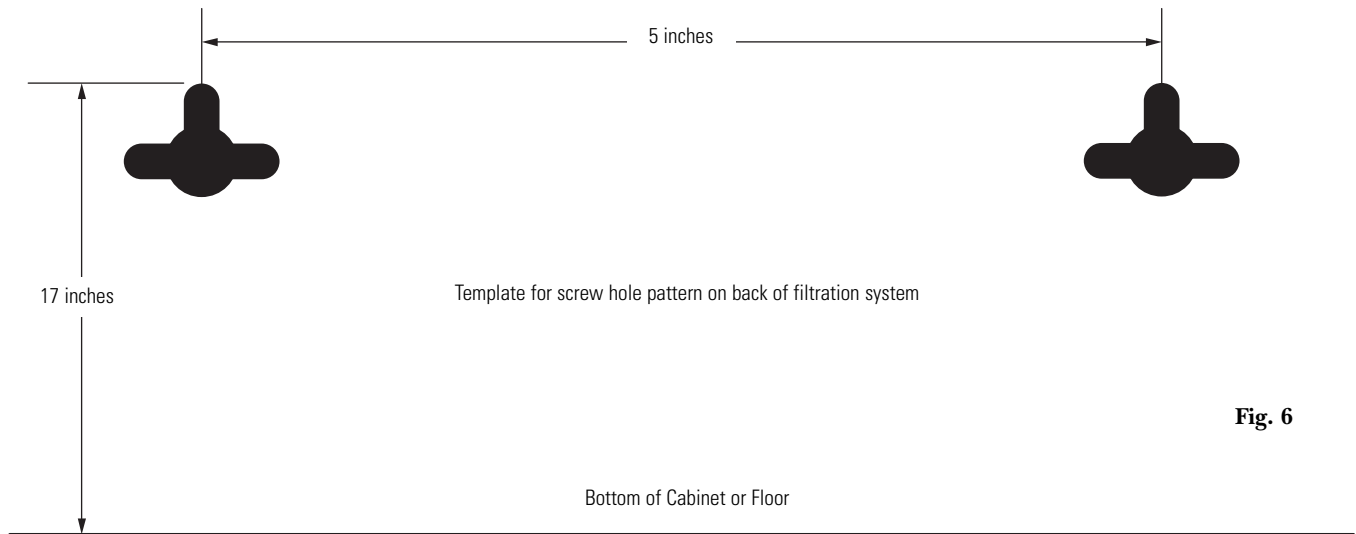

Fig. 6
2. The top of the template openings should be placed a minimum of 17 inches above the bottom of the cabinet or floor where the system is to be mounted (Fig. 6 and 7).